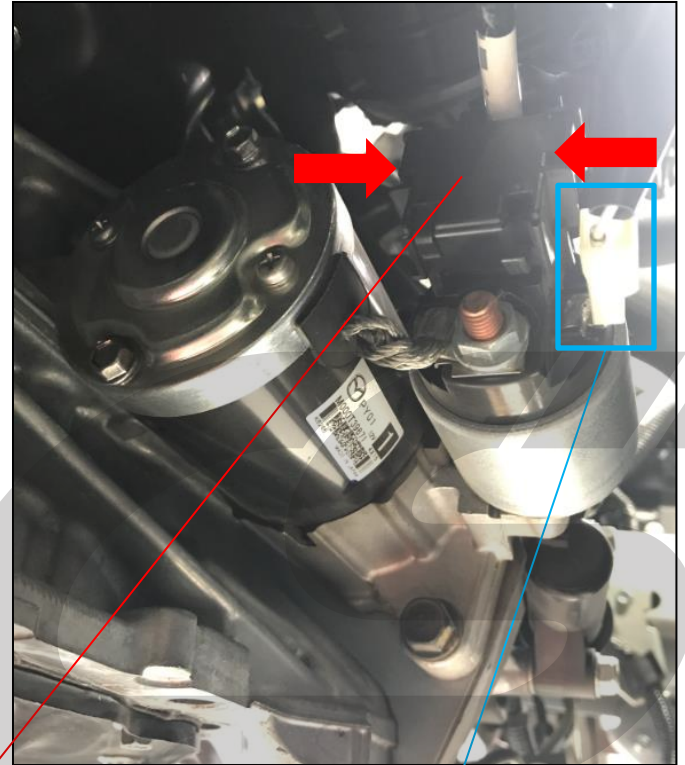

Figure 2a
- a) Locate the engine starter on the front of the engine as shown in **Figure 2a**.
- c) Open the starter power wire cover as shown with the **red arrows** in **Figure 2a**.